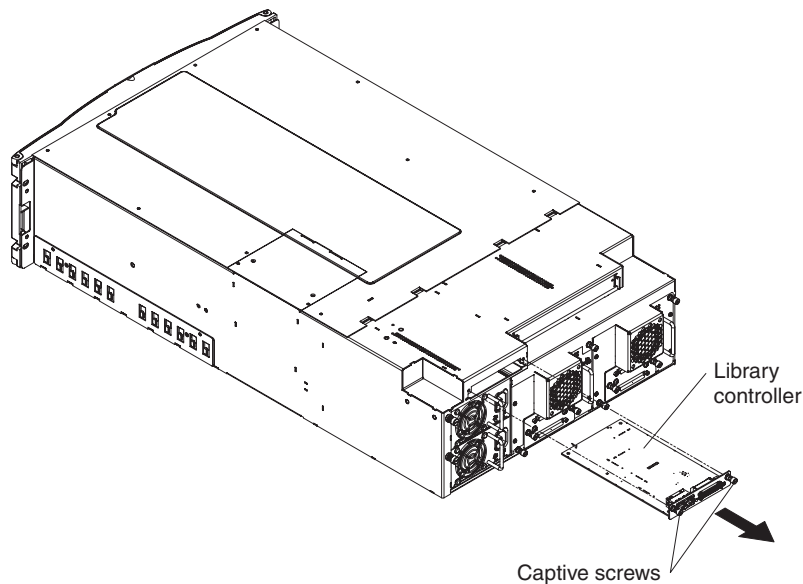

Figure 19. Removing the library controller
5. Pull the library controller out of the library chassis as shown in Figure 19.